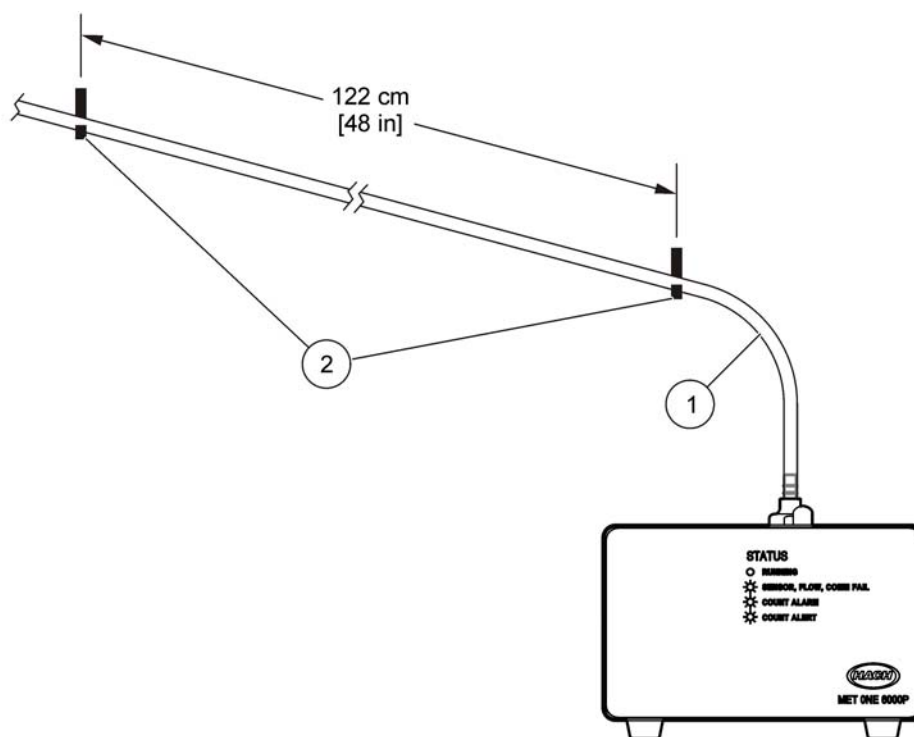

Figure 5 Tubing installation guidelines
3. Support the tubing with hooks or cable ties at intervals that are not more than 4 feet apart. Make sure that the tubing has a minimum bend radius of 4-inches (Figure 5).